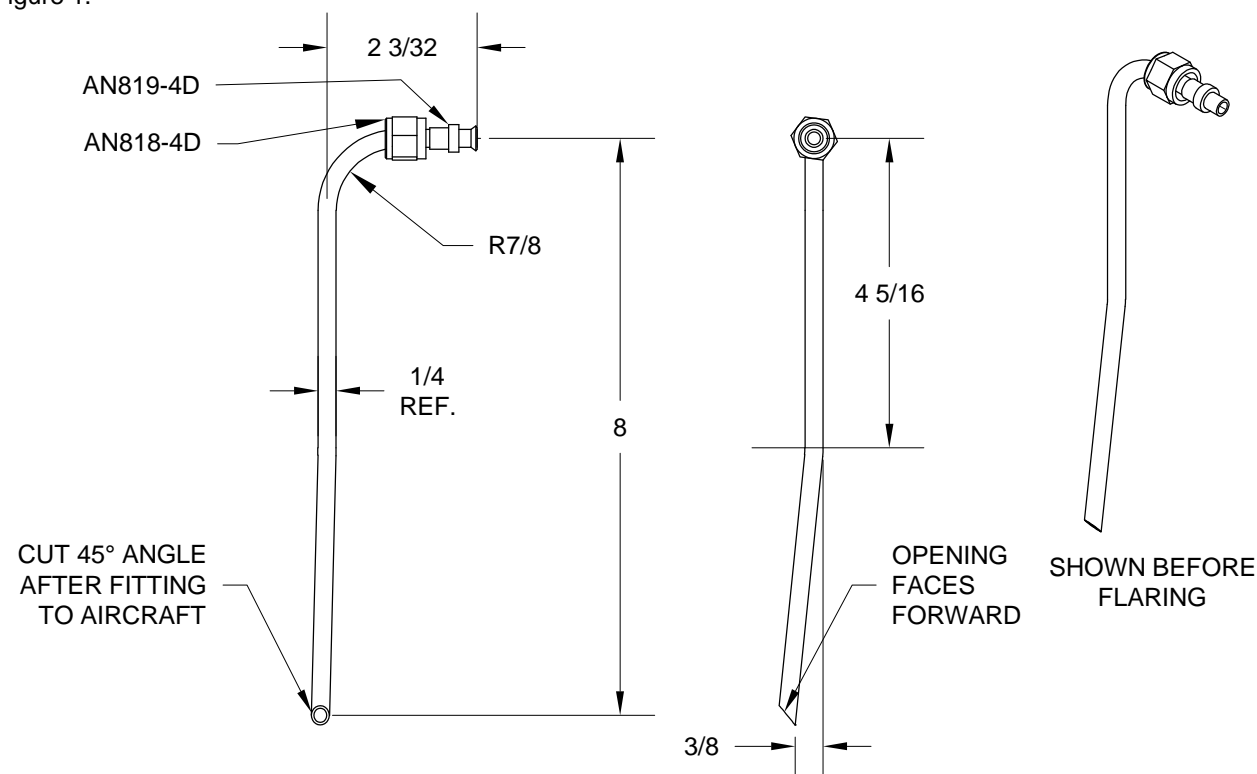

FIGURE 1: FABRICATING THE FUEL VENT LINE
Step 1: Make from material AT0-032x1/4 soft aluminum tubing the left F-Vent Line Fuselage Vent Line as shown in Figure 1. After bending to the radius shown slide the coupling sleeve onto the short leg before flaring as it cannot be slid around the radius afterward. Flare the end of the tube as shown in Figure 1.